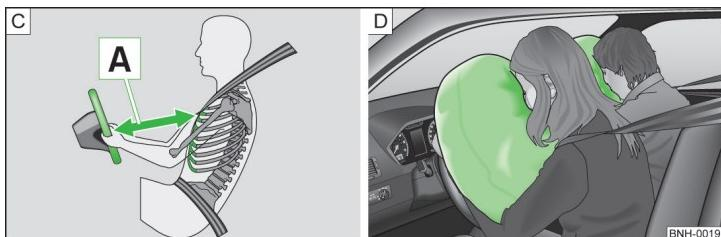

Fig. 9 Safe distance to steering wheel/inflated airbags
The airbags inflate in front of the driver and front passenger when they are deployed » Fig. 9 - [D]. The forward movement of the driver and of the front passenger is cushioned when they make contact with the fully inflated airbag and the risk of injury to head and chest is thus reduced.
- For the driver and front passenger, it is important to maintain a distance of at least 25 cm from the steering wheel or dashboard **A** » Fig. 9. Not keeping to this minimum distance will mean that the airbag system will not be able to properly protect you – risk of death. The front seats and the head restraints must always also be correctly adjusted to match the body size of the occupant.